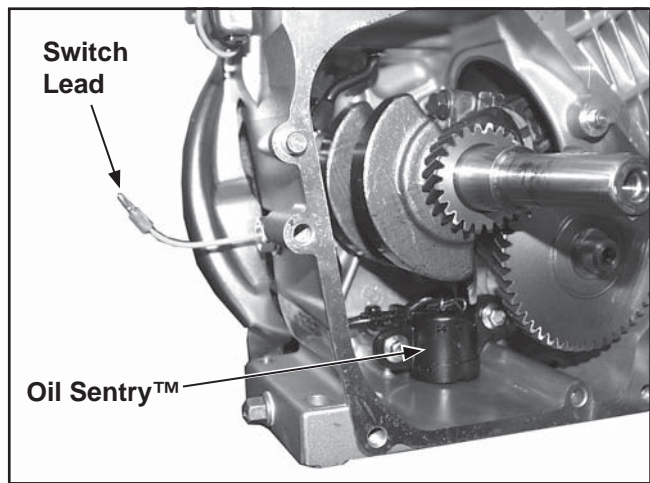
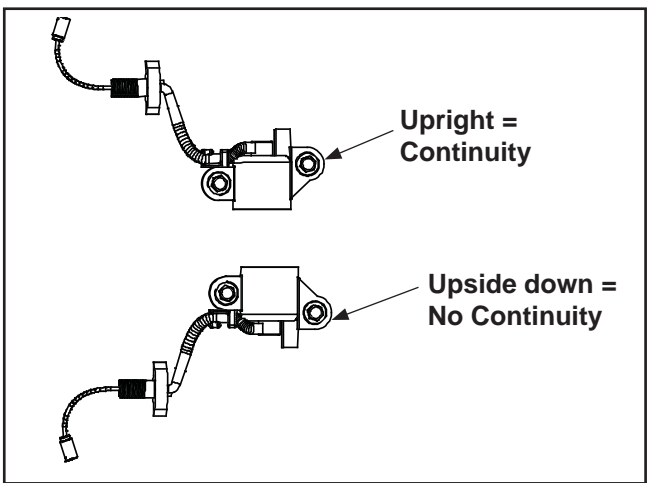

Figure 8-3. Oil Sentry™ Function Check.
Figure 8-4. Oil Sentry™ Continuity.
5. Set an ohmmeter to the Rx1 scale and zero the meter. Connect one ohmmeter lead to the Oil Sentry™ float switch lead (yellow with green sleeve) and touch the other lead to a bare spot on the crankcase (ground). See Figure 8-3. Drain the oil from the crankcase and repeat the test. <ul style="list-style-type: none"> a. If continuity was indicated with and without oil above, check if the insulation has been scraped off the float switch lead. b. With the float switch removed, connect one ohmmeter lead to the float switch lead terminal and connect the other lead to the mounting bracket. Test resistance with the switch in the normal position and inverted. Repeat test 2 or 3 times in each direction. 	5. With the oil at the proper level, no continuity should have been indicated. After the oil was drained, continuity should have been indicated. If test results are other than specified, remove the closure plate from the engine and remove the float switch for further testing (Steps 5a and 5b). <ul style="list-style-type: none"> a. If the lead wire is bare, allowing it to short, repair with electrical tape or replace float switch. b. Switch continuity should be as indicated in Figure 8-4. If not, replace it.